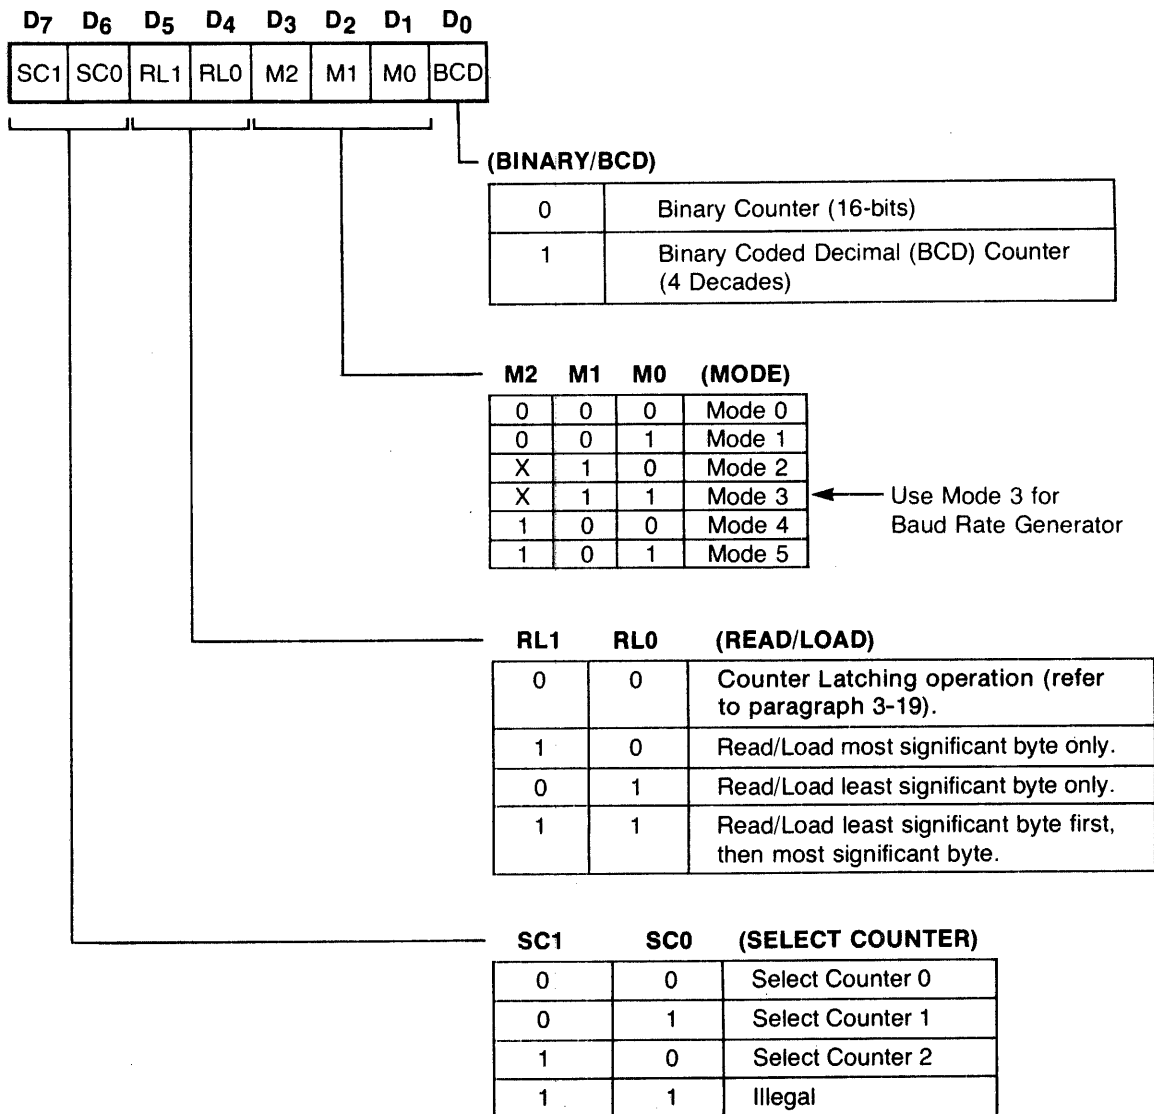

Figure 3-1. PIT Mode Control Word Format
- a. A mode control word (Figure 3-1) is written to the control register for each individual counter.
The mode control word (Figure 3-1) does the following:
Before you can use one or all of the counters, they must be programmed for mode and count. The mode can be programmed at any time with the Mode Control Word (Figure 3-1). This word specifies which counters are selected, what their mode is, and the type of count byte which will subsequently be sent.
Notice that the Read/Load sequence specified by the Mode Control Word with the RL bits (Figure 3-1) *must* be followed when these bytes are sent to the PIT. These bytes do not necessarily have to follow the associated Mode Control Word. For example, if you select RL1=0 and RL0=1, indicating Read/Load *least* significant byte only, your desired count must be placed in the least significant count byte. This is especially important when using counts which require two bytes.
The count mode selected in the control word controls the counter output. As shown in Figure 3-1, the PIT device can operate in any of six modes:
- Write mode control word for Counter 0 to port D6. Note that all mode control words are written to D6, since the mode control word must specify which counter is being programmed. (Refer to Figure 3-1). Table 3-6 provides a sample subroutine for writing a mode control word for Counter 0.